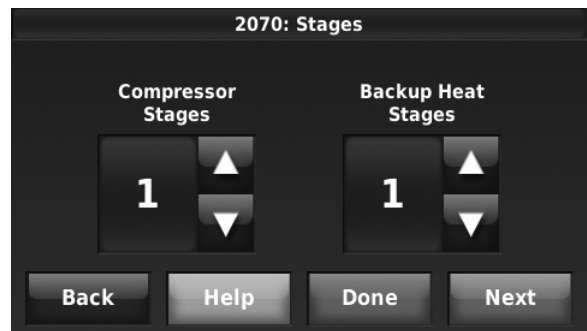

Fig. 204.
6. Select the number of Compressor and Backup Heat Stages. See Fig. 204.